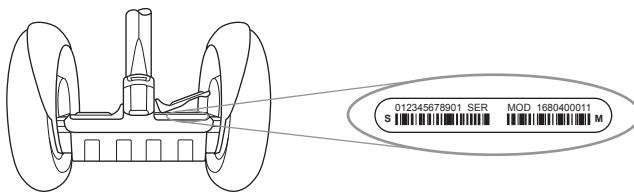

Figure 1. Location of Segway PT Serial Number
2. Locate the serial number on the left side of the label. The serial number is a 12-digit number beginning with “0” (see **Figure 1**).